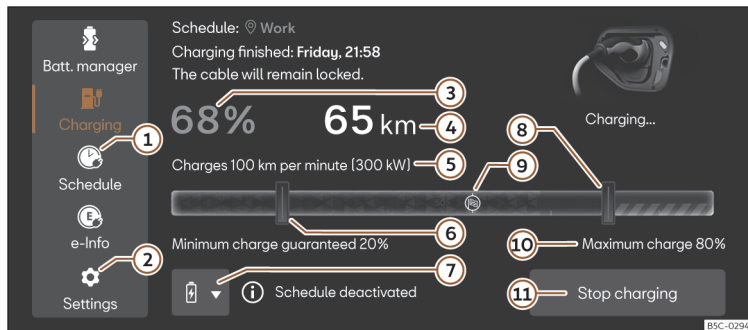

Fig. 65 In the infotainment system: Charging main menu.
2. Push the   >>> **Fig. 65** button.